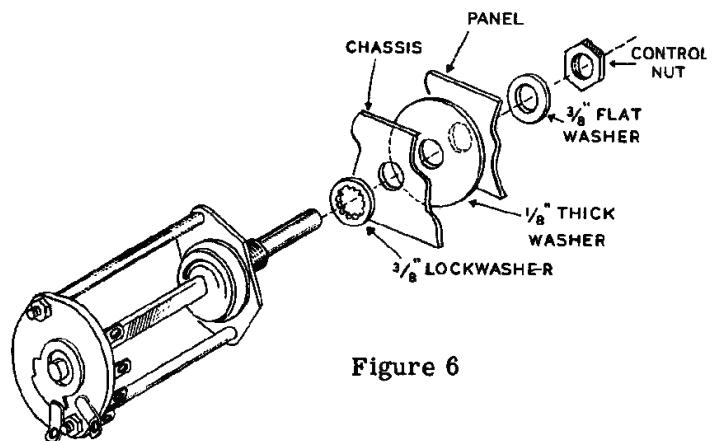

Figure 6
- ✓ Assemble the parts on the switch shaft in proper sequence as illustrated in Figure 6.